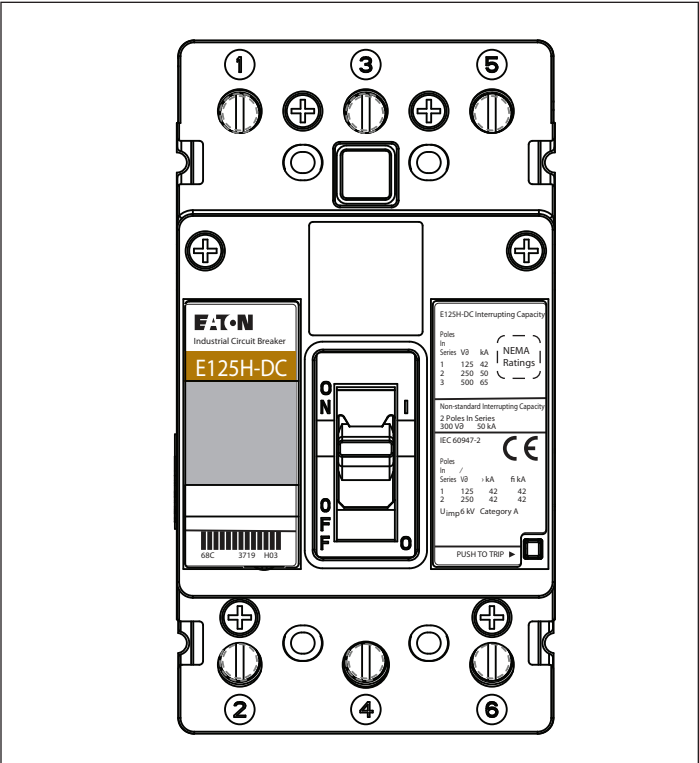

Figure 1. Type EG-DC Series C DC Circuit Breaker
In this document, the term circuit breaker includes molded case switches. The E-frame Series G circuit breaker type ED-DC (Fig. 1) is rated 500 Vdc maximum and from 25A to 100A continuous current. (Refer to Table 1 for all available trip unit ratings.) The circuit breaker is listed in accordance with Underwriters Laboratories, Inc. Standard UL489. The type EG-DC circuit breaker is for use in grounded and ungrounded applications where multiple poles are connected in series (Figures 2-5) A 3-pole breaker may be wired as a 2-pole with rated voltage and interruption based on the number of poles wired in series. This instruction leaflet (IL) gives procedures for installation and field testing of the types EG-DC Series G DC circuit breaker.